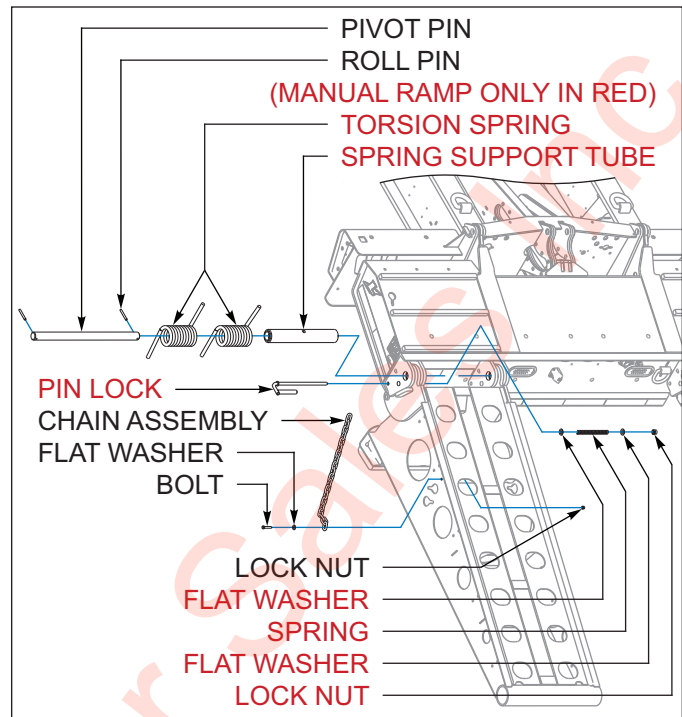

Figure 5-22: Beavertail Ramp
6. Remove two roll pins from the ramp pivot pin that secures the ramp to the beavertail. *See Figure 5-22 on Page 5-38.*
1. For Manual Ramps (Option) Only, Install pin lock through the beavertail hinge plate lower hole. Install One narrow flat washer, one spring, one narrow flat washer, and one lock nut to secure the lock pin to the beavertail. *See Figure 5-22*